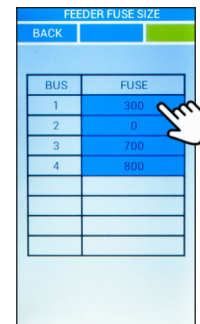

Figure 59. Feeder Fuse Size
- Step 8.** Select BUS to access the feeder fuse size menu. Within each bus, the fuse value can be adjusted by intervals of 50A by tapping the fuse amperage number until the required amperage is met (see Figure 59). Select BACK to return to the BUS AMP./PANEL TYPE menu. The range is between 300 - 1200A. 0 means the fuse is not installed.